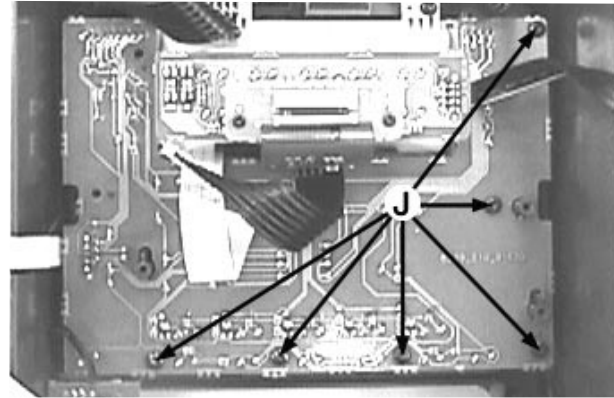

Figure 11
- 6) Loosen 6 screws J (see Figure 11) to remove the Display Board (pos 1107-A).